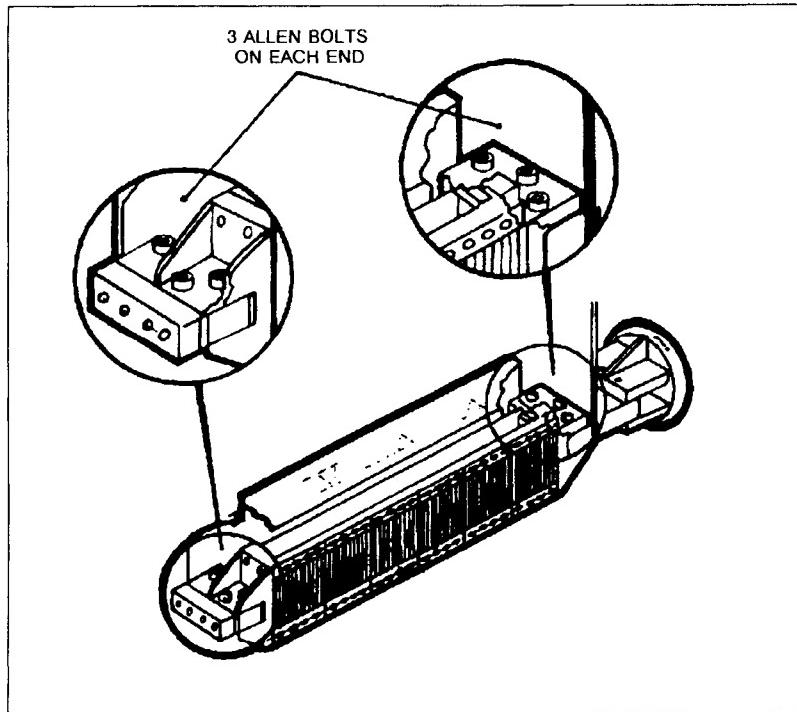

Figure 6-29. Printbar Bottom View
- h. Loosen the three 5 mm Allen screws at the ends of the printbar assembly removing two of the screws (see Figure 6-29). Leave the center screw in to prevent the printbar from sliding out.